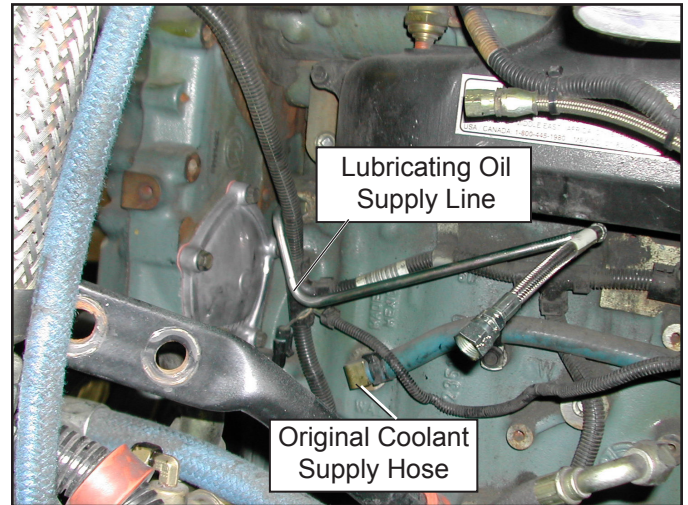
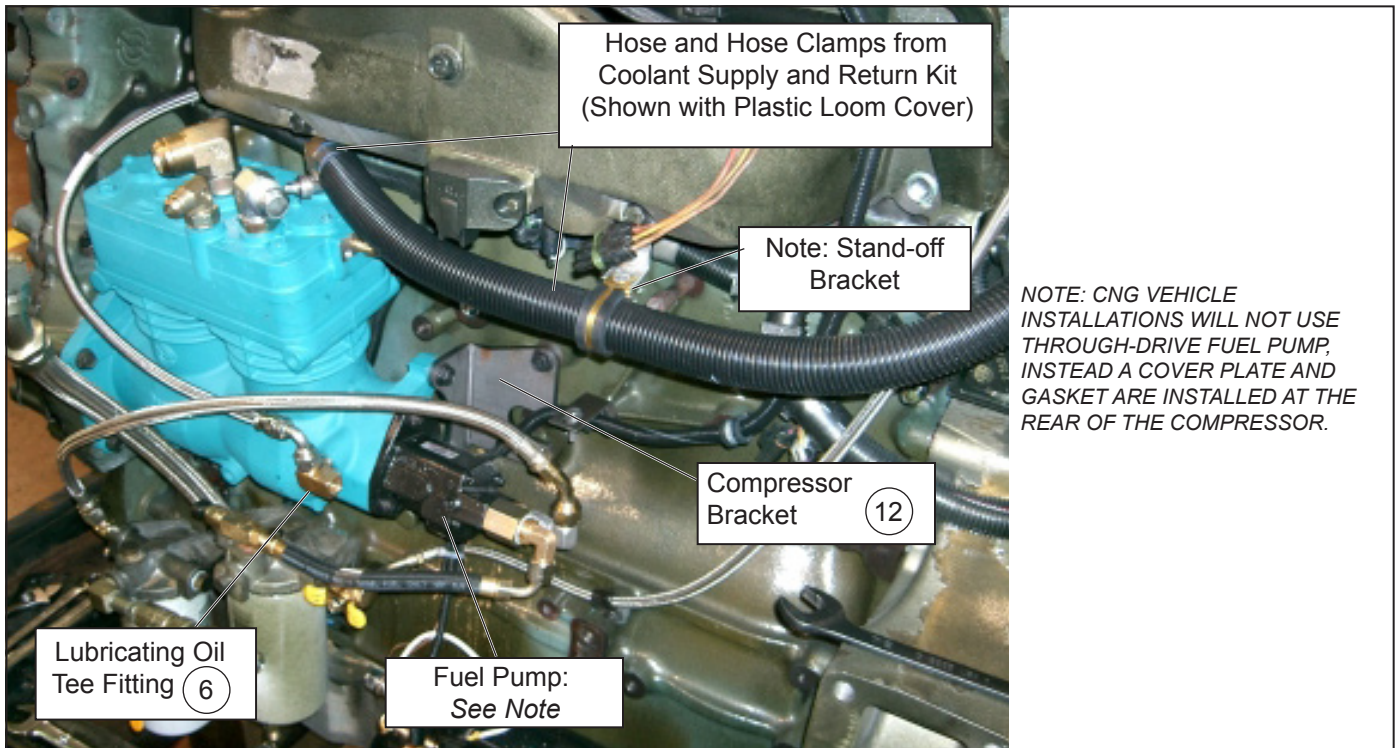
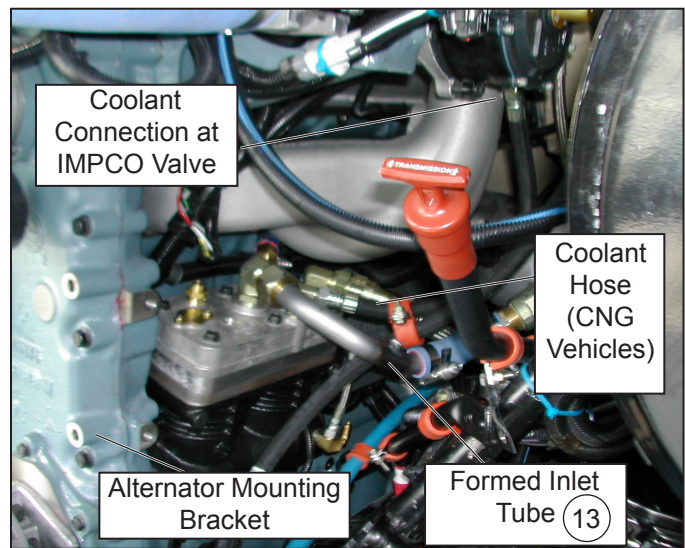
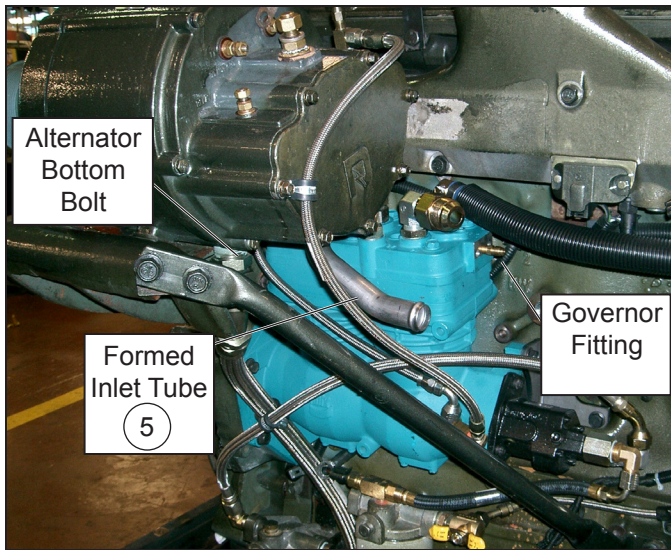

Figure 1 – Engine Compartment After Compressor Removal
Figure 3 – Shows Mounting Bracket, Coolant Supply Routing, and Fuel Pump
Figure 6 – Engine Compartment View (CNG)
Figure 7 – Engine Compartment View
2. Since the new compressor is larger than the original, it is necessary to prepare the lubrication oil supply line for the new installation by carefully adjusting the angle of the bend from approximately 90° to approximately 150°. (See Figure 1). This will allow the original line to be reused for the new installation. If the line is damaged, cracked, etc. replace it.
3. **SERIES 50 ENGINES:** Disconnect the original coolant supply hose (See Figure 1) and fitting from the engine block. The pipe plug (7), is then installed into the engine block. Since the Bendix® BA-922® compressor requires a higher pressure source of coolant to operate, the installation requires the routing of a new coolant line from the engine oil cooler housing.
See *Figure 3* for a typical installation.
19. The 3/4" I.D. silicone coolant supply hose supplied in kit 5016661 connects to the coolant inlet fitting on the compressor. See Figure 3. The hose is routed from the compressor fitting, around the rear of the engine to the engine oil cooler housing. Fasten the hose using the
For CNG ENGINES: Install the included a 3/8" NPT to #8 JIC adapter fitting (10), at the IMPCO valve (See Figure 6). The other end of the hose connects to the compressor coolant outlet fitting (1) (See Figure 1). The included hose is an 18 inch long assembly with #8 JIC fittings on both ends.
For DIESEL ENGINES: Install the coolant return line (DDC p/n 23526867) from the air compressor, Fitting (1), (See Figure 1), around the front of the engine, to the water pump inlet. Figure 7 shows a typical coolant return line that runs from the air compressor, around the front of the engine, to the water pump inlet.
23. Install the 1.0" OD Formed Air Inlet Tube (5) onto the compressor inlet fitting (3). See Figure 6 for orientation. The inlet hose connects to the #16 elbow (shown in Figure 3 as (3)). Select a hydrocarbon-resistant inlet hose of 1.0" ID. Use a reinforced hose capable of withstanding 400°F temperatures and of a material strong enough to resist kinking and will not collapse under the forces present at the compressor inlet.
See Figure 6 for the location of the bottom bolt in the alternator mounting bracket (*NOTE: In many cases, this bolt is originally painted green*). **The 7/16" diameter, 1/8" thick hardened washer, included in the kit, must be placed under the head of the bolt** in order to avoid interference between the BA-922® cylinder head and the end of the alternator mounting bolt. Follow the vehicle manufacturer's guidelines for torque spec's.
See Figure 6 for a typical final compressor installation.